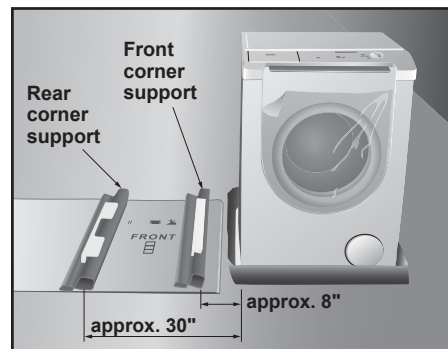

Figure 1
2. Protect the floor and washer/dryer with a large piece of cardboard (pedestal carton). Lay the washer/dryer on its **LEFT** side so that the cardboard is under the entire left side of the washer/dryer. Refer to **Figure 1** and corresponding instructions for recommended placement of protection.
4. Place the two corner supports as shown in **Figure 1**.